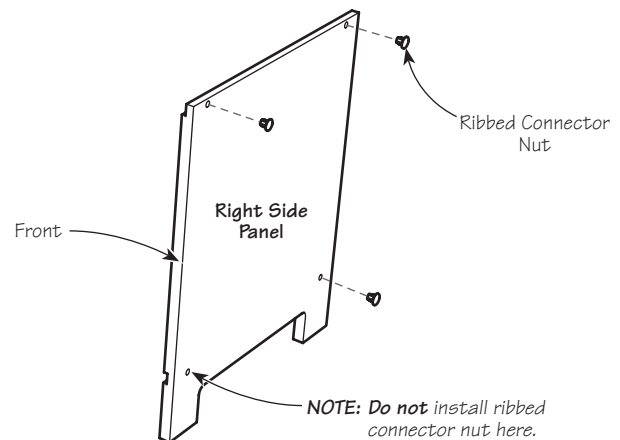

**Figure 2: Ribbed connector nut.**
- The first step is to install the ribbed connector nuts (**Figure 2**) as shown and oriented in **Figures 3** through **6**. These nuts can be driven into the appropriate holes with a mallet or hammer. If a hammer is used, we recommend placing a scrap piece of wood over the top of the nut to avoid marring the parts with errant hammer blows.